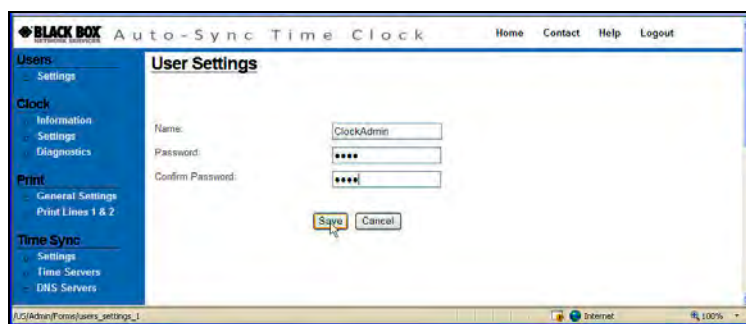

Figure 4-3. User Settings.
2. Click on the **Add** button to create a new user, and the **User Settings** screen will appear (see Figure 4-3).